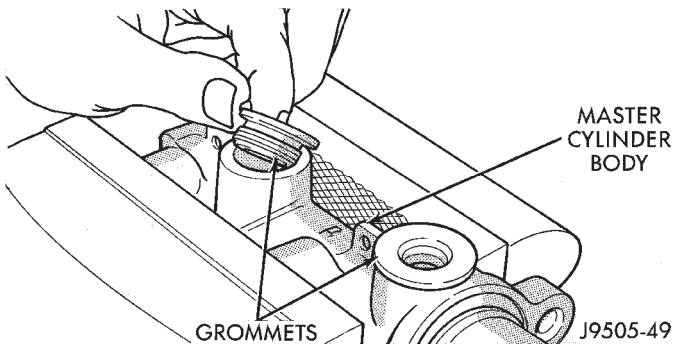

Fig. 44 Grommet Removal
(6) Remove old grommets from cylinder body (Fig. 44).